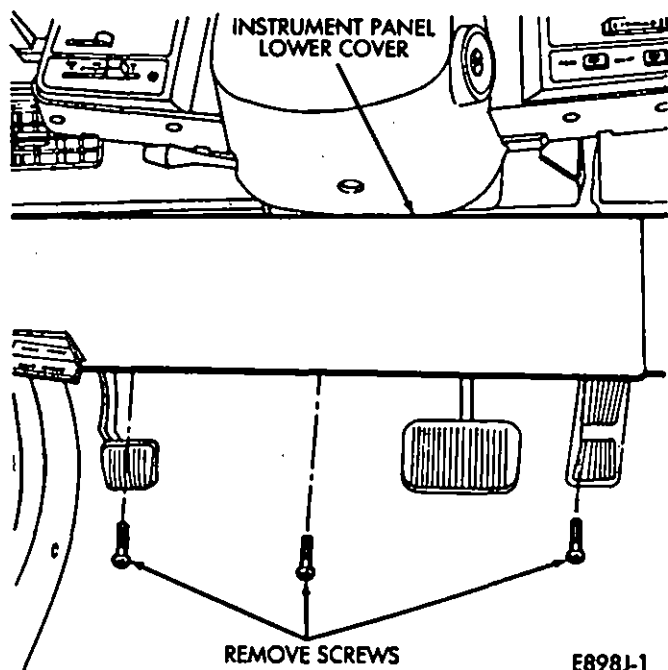

Fig. 1—Remove Instrument Panel Lower Cover
(1) Remove screws and instrument panel lower cover if equipped (Fig. 1).